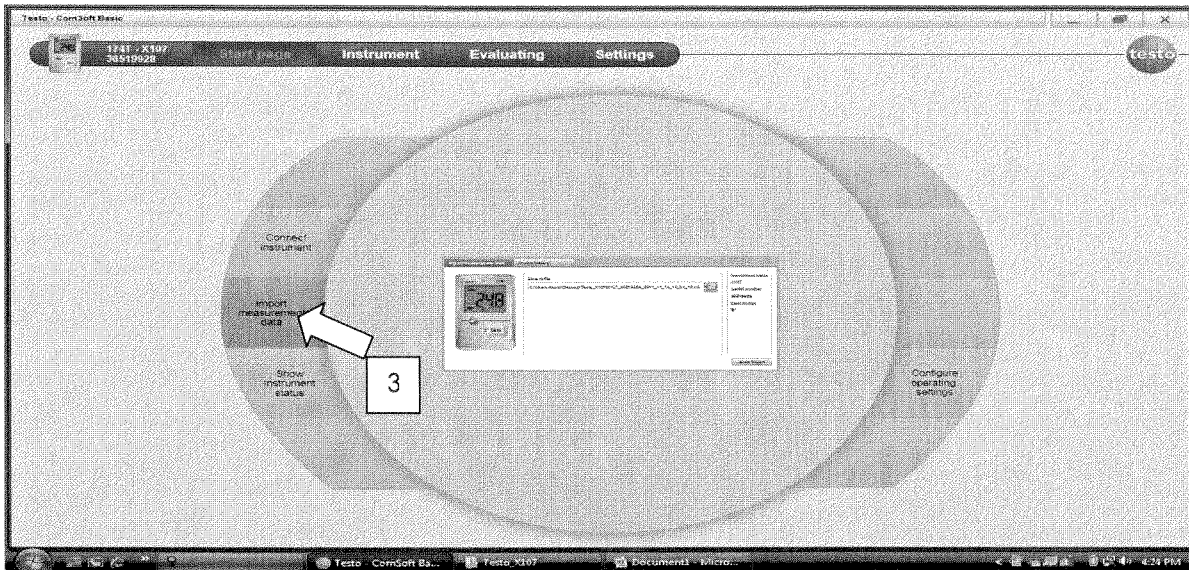

Fig 5.8: Import measuring data (box 3)
Step 5: In start page menu select import measurement data as you can refer box 3 (Fig 5.8)